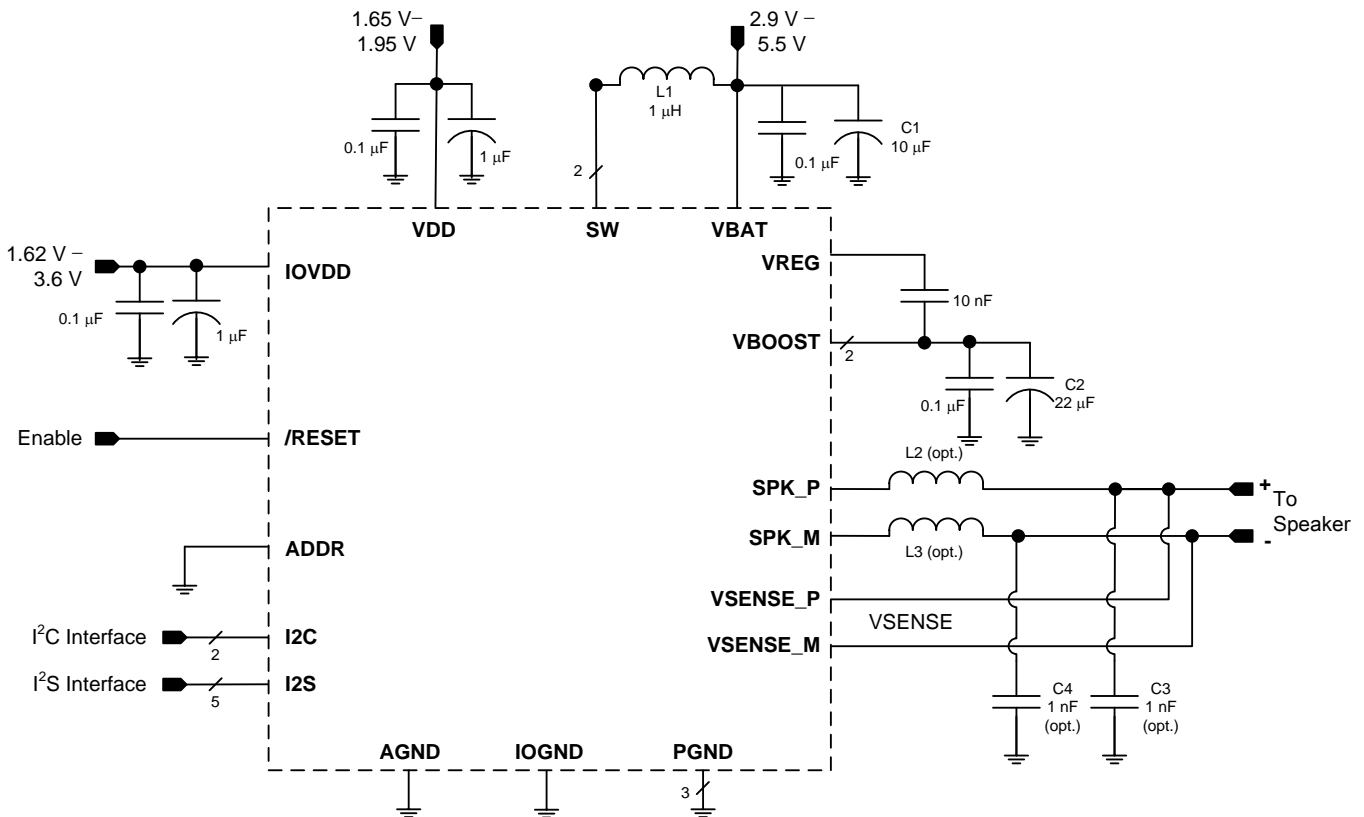

图 98. Typical Application - Digital Audio Input
The boost converter requires three passive devices that are labeled L1, C1 and C2 in 图 98 and whose specifications are provided in 表 101. These specifications are based on the design of the TAS2560 and are necessary to meet the performance targets of the device. In particular, L1 should not be allowed to enter in the current saturation region. The saturation current for L1 should be > ILIM to deliver Class-D peak power.
The TAS2560 supports edge-rate control to minimize EMI, but the system designer may want to include passive devices on the Class-D output devices. These passive devices that are labeled L2, L3, C3 and C4 in 图 98 and their recommended specifications are provided in 表 101. If C3 and C4 are used, they must be placed after L2 and L3 respectively to maintain the stability of the output stage.
- Use supply decoupling capacitors as shown in Figure 98 and described in Power Supplies.